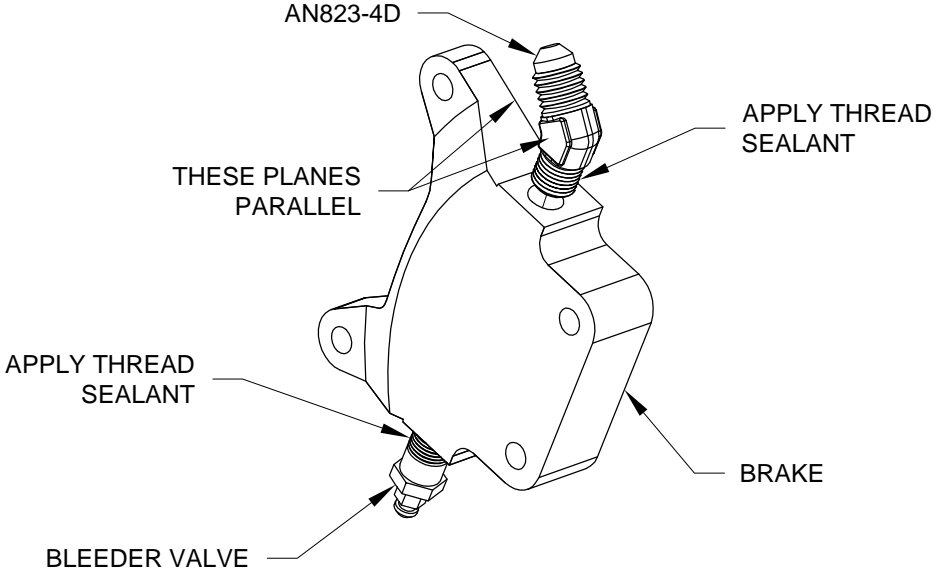

FIGURE 2: ADDING FITTINGS TO BRAKE ASSEMBLY (RIGHT SHOWN)
Step 2: Apply pipe thread sealant and attach the fluid fittings to the brake as shown in Figure 2. Note that the brakes should mirror each other when installed.
Step 4: Install left and right side Brake Assemblies as shown in Figure 3. Slide the studs of the Cylinder Assembly into the Brake Plate, place the Stationary Brake Shoe behind the Brake Disk, then bolt the Stationary Brake Shoe and Cylinder Assembly together. The bleeder valve should be on the bottom of the Brake Assembly when installed as shown on Page 35-05 Figure 2 Section A-A.